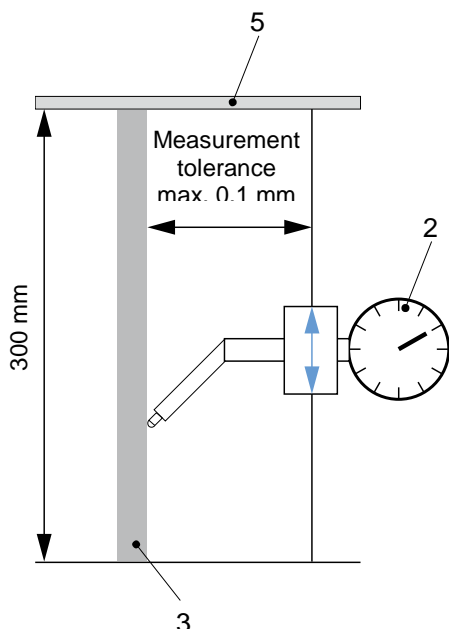

Fig. 1: Alignment piston rod
8.2 Installation (Figs. 1 and 2)
The piston rod support (Fig. 1 Item 5) and the piston rod (Fig. 1 Item 3) (customer-side) must be exactly aligned with one another. Max. Deviation to 0.3 m = 0.1 mm
3. Connect the hydraulic hose to the brake via thread m₁ (Fig. 1).
5. Turn the emergency release screws (7) back up to contact evenly and step-wise (tightening torque to contact, see Table in Chapter 5.2).